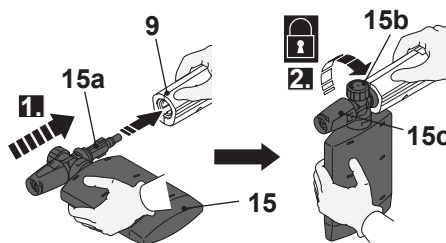

Fig. 13
- Align and insert the tongues (15a) of the soap tank (15) with the grooves of the spray gun (9) connection port (Fig. 13, step 1).